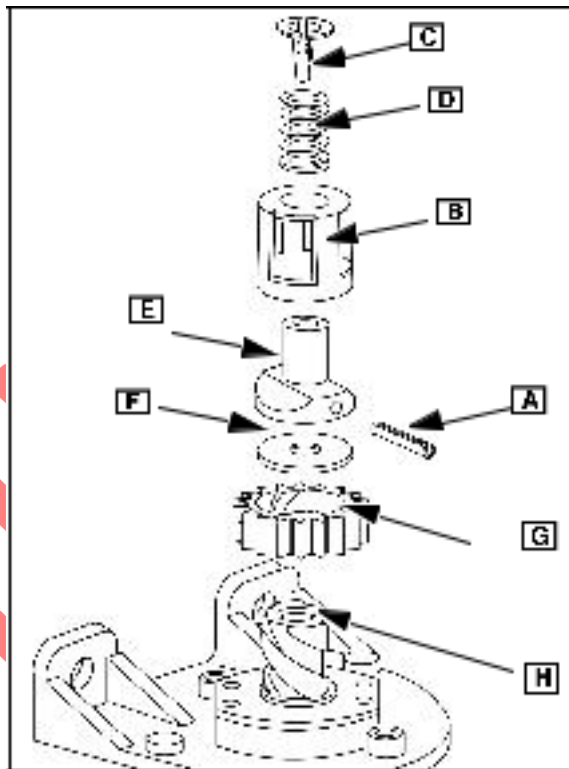

Fig. 37
Remove cover (B), upper spring retainer (C), spring (D), clutch retainer (E), washer (F), pinion gear (G) and clutch ([H] Fig. 37).
Correct any sticking between pinion gear and clutch ([H] Fig. 37).
Refer to Fig. 37.